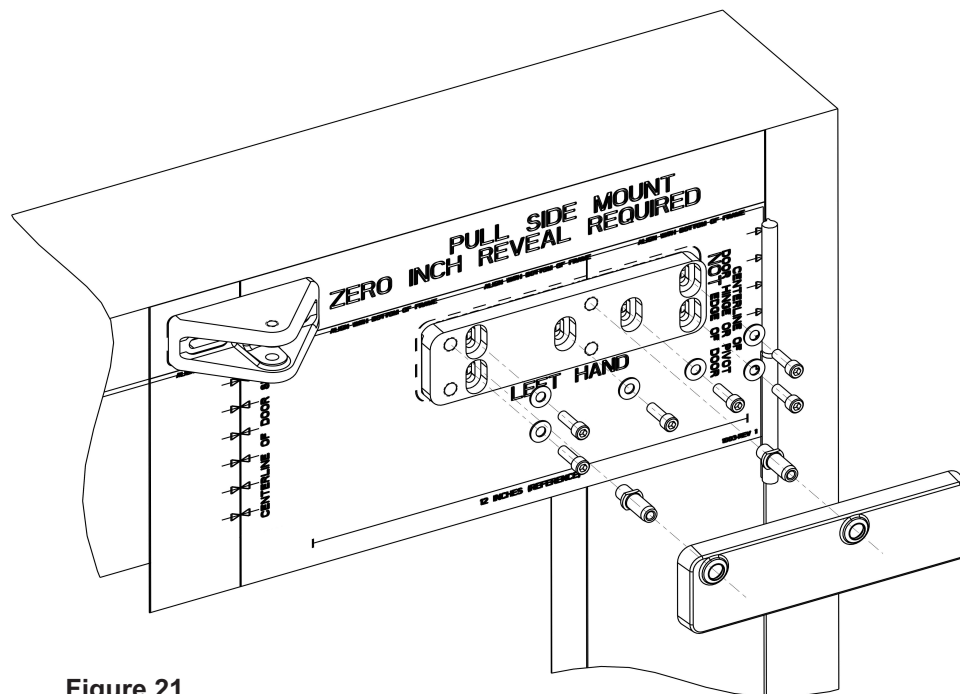

Figure 21
1. If the door is aluminum and rivnuts must be installed, refer to Figure 21 and PERFORM the following:
2. If the door is wood, refer to Figure 21 and PERFORM the following: